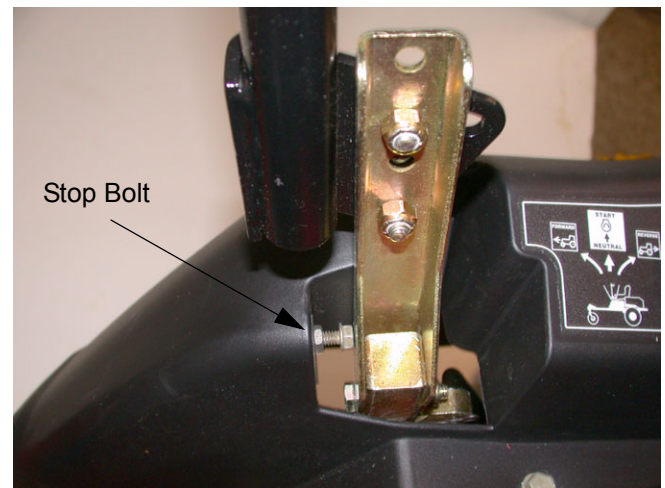

Figure 10.10
- 10.10. Adjust the stop bolts so that it tracks as straight as possible with both lap bars pushed to the full forward position. See Figure 10.10.